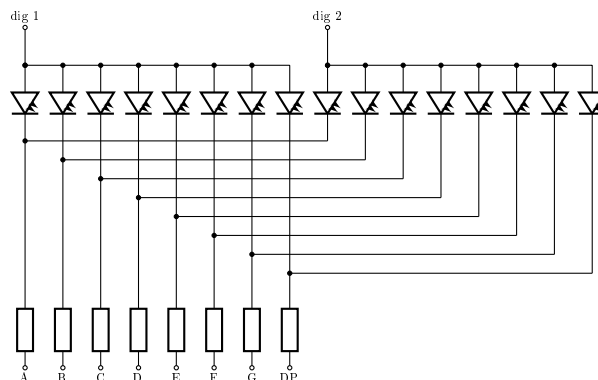

Figure 10: A 2-digit common anode digit with resistors (and a decimal point)
For an  $n$ -digit multiplexed 7-segment display, you must connect the limiting resistors as shown in Fig. 10 (the example circuit is only 2 digits). The digit pins are multiplexed, such that only one digit is on at a time, before switching to the next digit. This happens fast enough to not be seen.
4.  $7I_F$  will flow through the digit pin while displaying the number '8'. Hence  $7I_F$  should also be lower than what can be handled by the Arduino  $I_F$  pin; 40 mA or preferably not more than 20-30 mA. Note that some displays have more than 7 segments per digit, i.e. if there is a decimal point (see Fig. 10) or colon (see Fig. 5). In that case, you need to multiply  $I_F$  by 8 or whatever number of segments are present per digit.